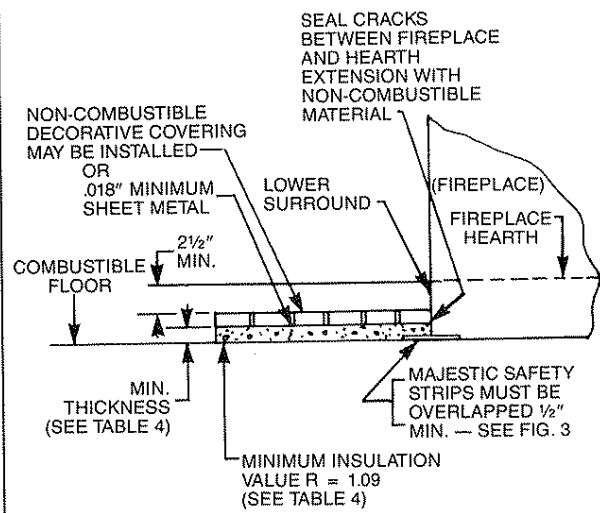

Fig. 23. Protection of adjacent combustible side walls and hearth extension dimensions.
A hearth extension is required to protect combustible floor construction in front of the fireplace. See Fig. 23 for minimum dimensions and mounting detail.
The hearth extension described in Fig. 23 must be constructed of a rigid insulation with a minimum (total)  $R_T$  value of 1.09. (See Table 4 for examples.) The overall height (above combustible floor), depth and width must be as indicated, with it centered to the fireplace opening. (See Fig. 23.)
The top of the insulation must be covered with a non-combustible decorative covering or a piece of .018" minimum sheet metal, to protect the hearth extension material. (See Fig. 23.)
Secure the hearth extension to the floor to prevent shifting, using trim molding or other similar means at the three (3) outer edges. Seal the crack between the fireplace hearth and the hearth extension with a non-combustible material. (See Figs. 23, 24 and 25.)
**WARNING: HEARTH EXTENSION MUST BE INSTALLED IN ACCORDANCE WITH FIGS. 23, 24 AND 25.**